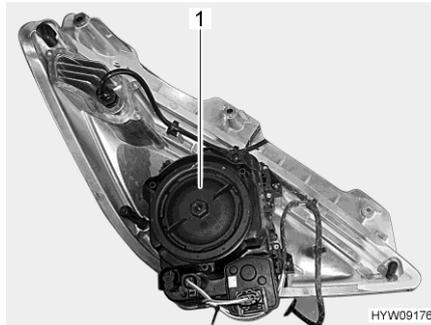

Fig. 219 Front headlight (rear side)
- Turn the housing cover (Fig. 219,1) in an anticlockwise direction and remove.
- Place the housing cover (Fig. 219,1) and tighten in a clockwise direction.